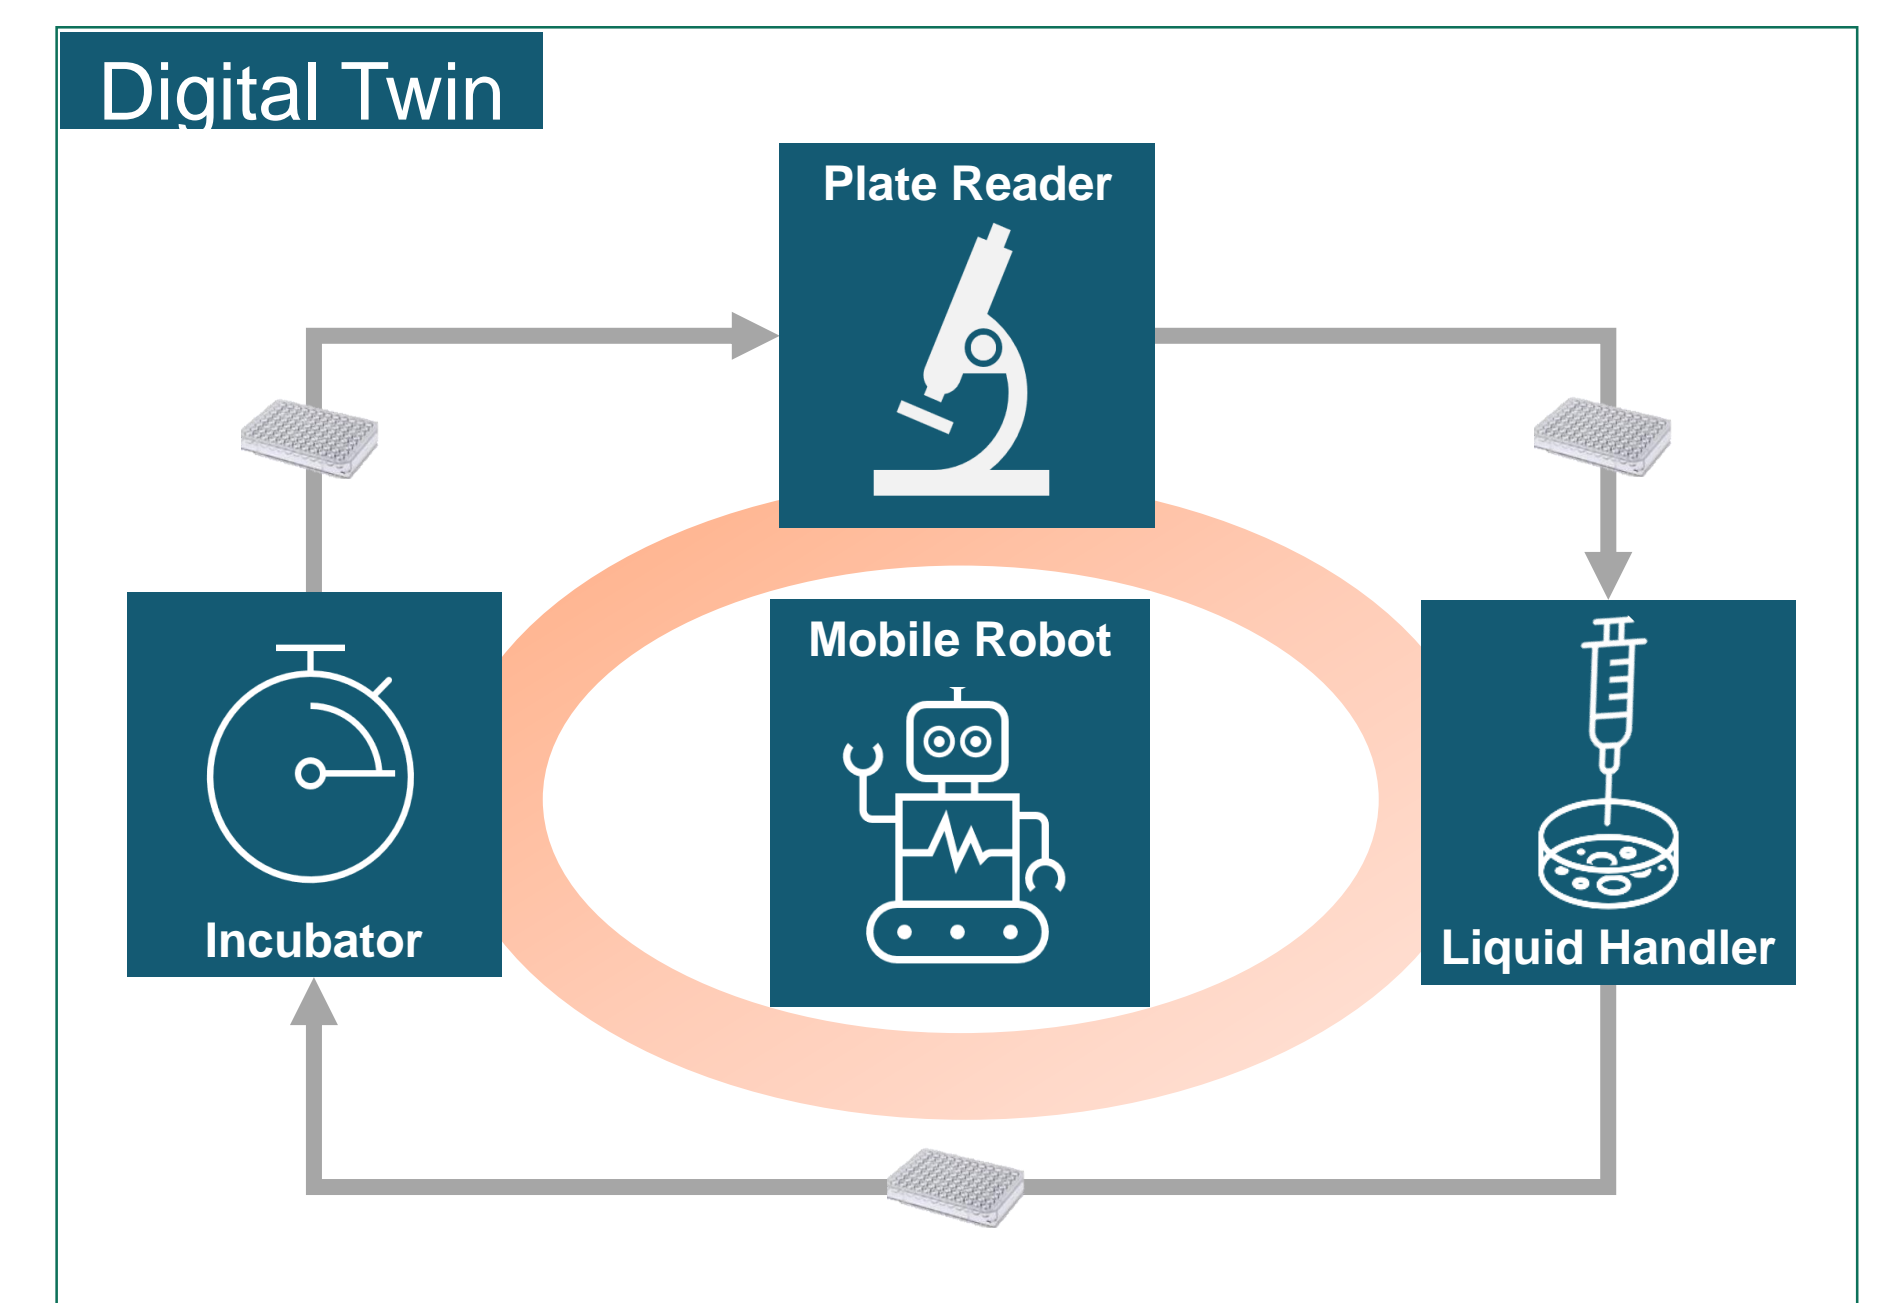

Figure 2: Overview of the equipment used in the digital twin of the media exchange process
- To illustrate a laboratory process, the laboratory equipment was modeled as a digital twin as shown in Figure 2